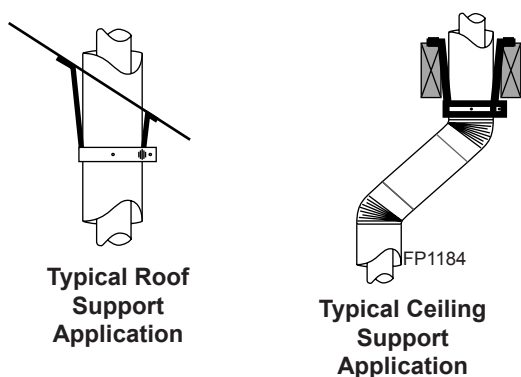
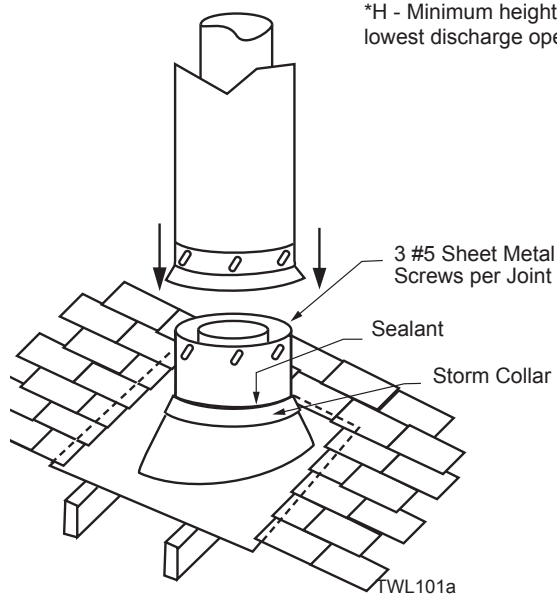

**Figure 37 -
**Figure 39 -
- 7DVCS supports offsets. *Figure 37*. This application will require that you first determine the roof pitch and use the appropriate starter kit. (Refer to Venting Components List)
7. Install roof support (*Figure 37*) and roof flashing making sure upper flange is below the shingles. *Figure 39*
8. Install appropriate pipe sections until the venting is above the flashing. *Figure 39*
10. Add additional vent lengths for proper height. *Figure 39*